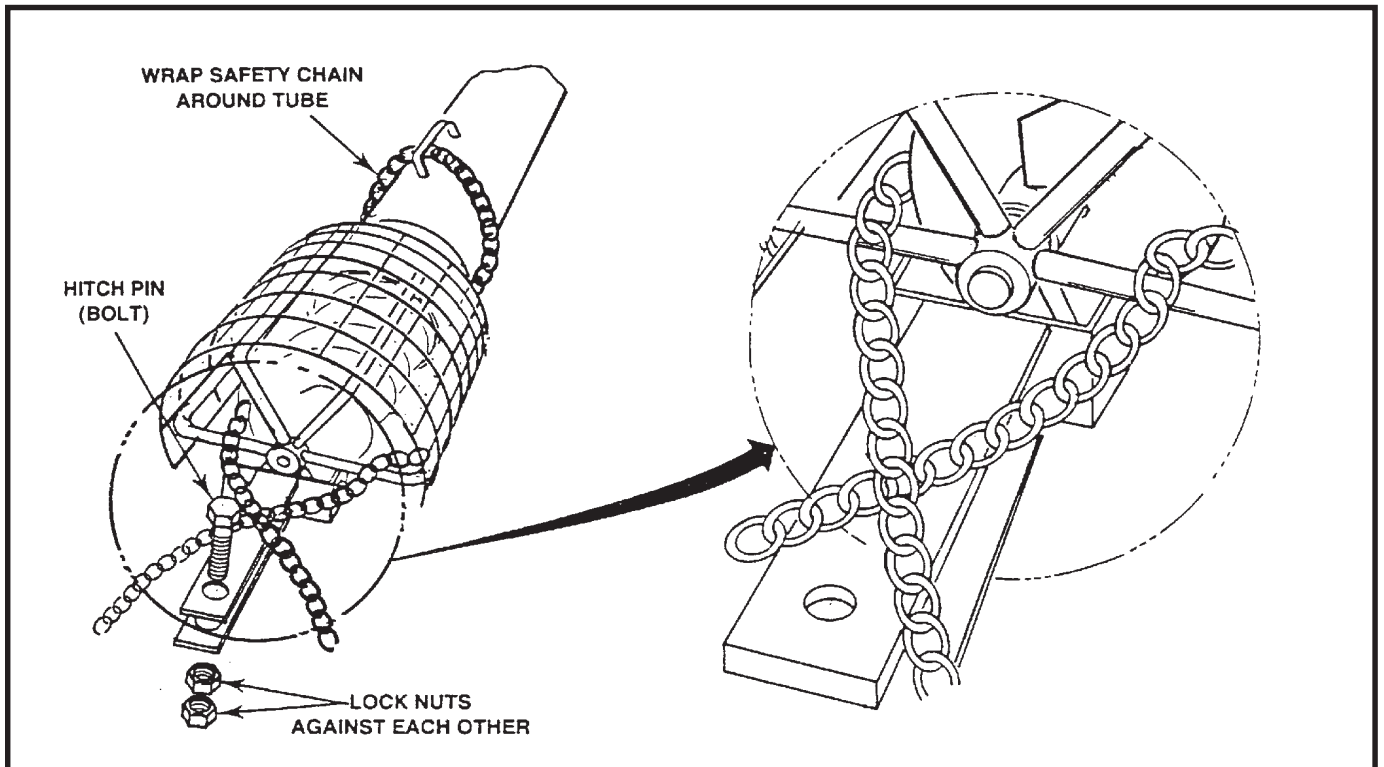

Figure No. 26
**NOTE:** We recommend that a type of hitch pin be used that will not allow auger to separate from towing vehicle. (See **Figure No. 26**)